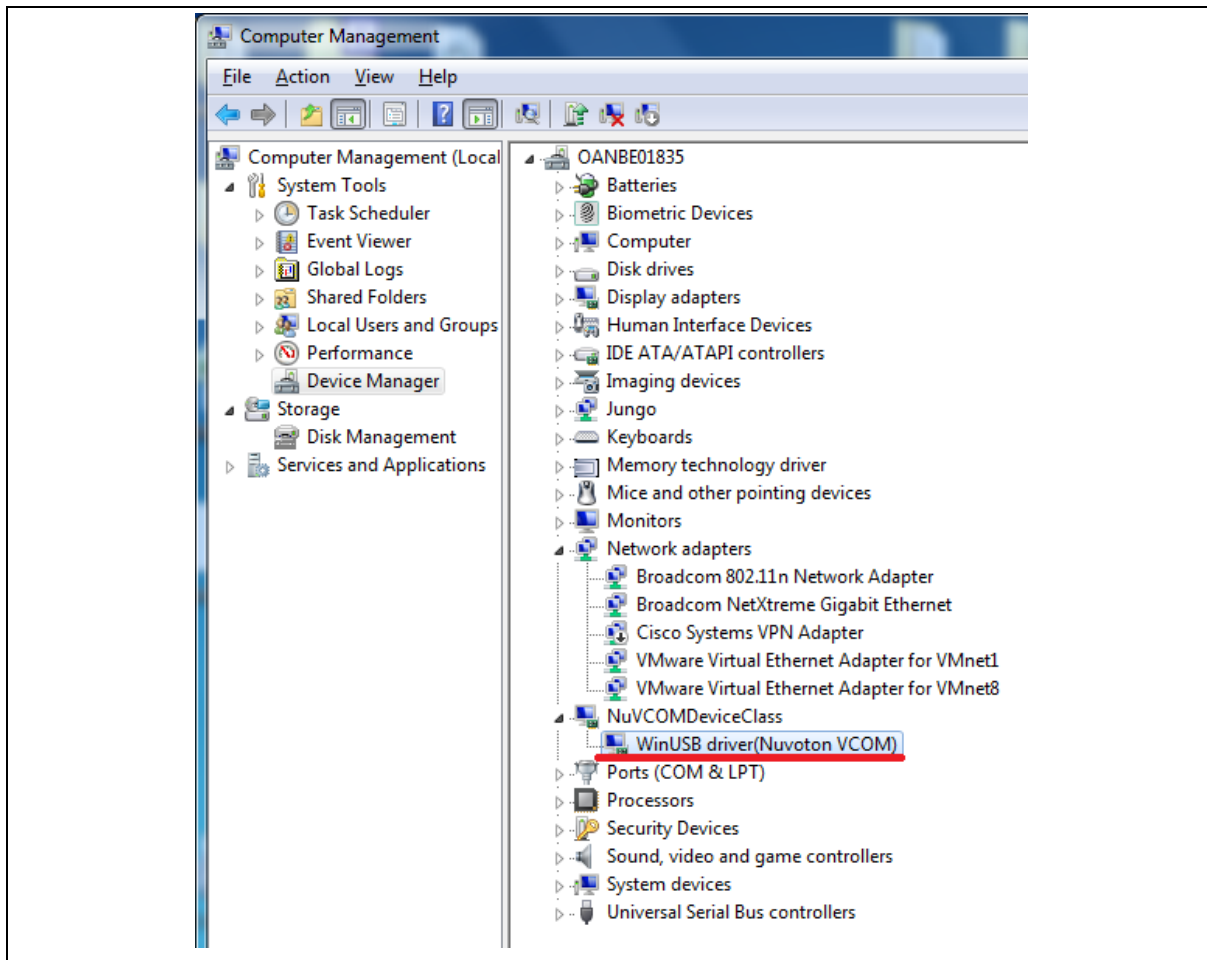

Figure 4-10 Device Manger (2)
4. Find the “WinUSB driver (Nuvoton VCOM)” on the Device Manager as Figure 4-10.